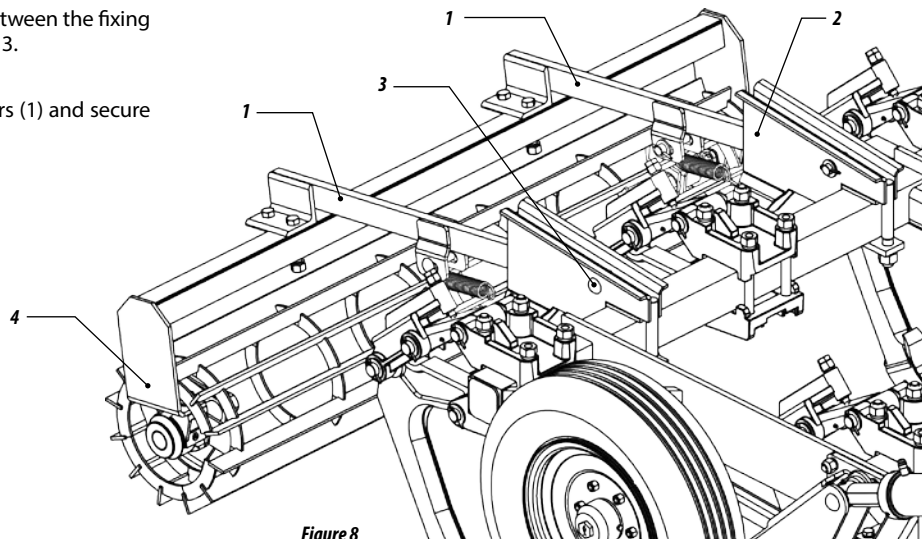

Figure 8
11 - Introduce the oscillation bars (1) Figure 8 between the fixing brackets (2) and secure them with pins Item 3.